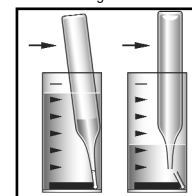

Figure 3
For improved accuracy with colored or turbid samples, Sample Zeroing Accessory Pack, Cat. # A-0503 is available for use with CHEMetrics photometers only. Using the sample cup, snap the tip of the A-0503 ampoule in the sample (see figure 3 below). Invert the ampoule to mix. Dry the ampoule and use it in place of the supplied ZERO ampoule to zero the photometer.
4. Place the Vacu-vial ampoule, tip first, into the sample cup. Snap the tip. The ampoule will fill leaving a bubble for mixing (fig. 3).
7. Insert the Vacu-vial ampoule into the photometer, flat end first, and obtain a reading in ppm (mg/Liter) cyanide (CN).